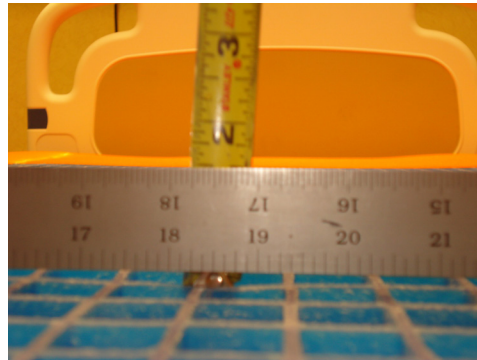

Figure 6
6. Using a tape measure, measure the maximum depth (lowest point) from the bottom of the straight edge to the top of the gel as shown in Figure 6.